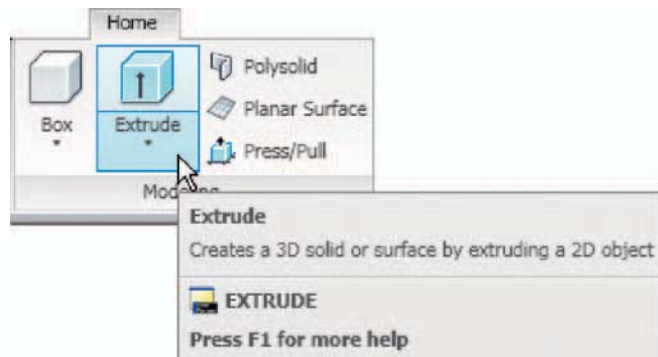

Fig. 12.13 The **Extrude** tool from the **Draw/Modeling** drop-down menu
The **Extrude** tool can be called with a *click* in the **Modeling** toolbar, with a *click* on its name in the **Draw/Modeling** panel (Fig. 12.13), or by *entering* **extrude** or its abbreviation **ext** at the command line.
1. Call **Extrude** (Fig. 12.13). The command line shows: